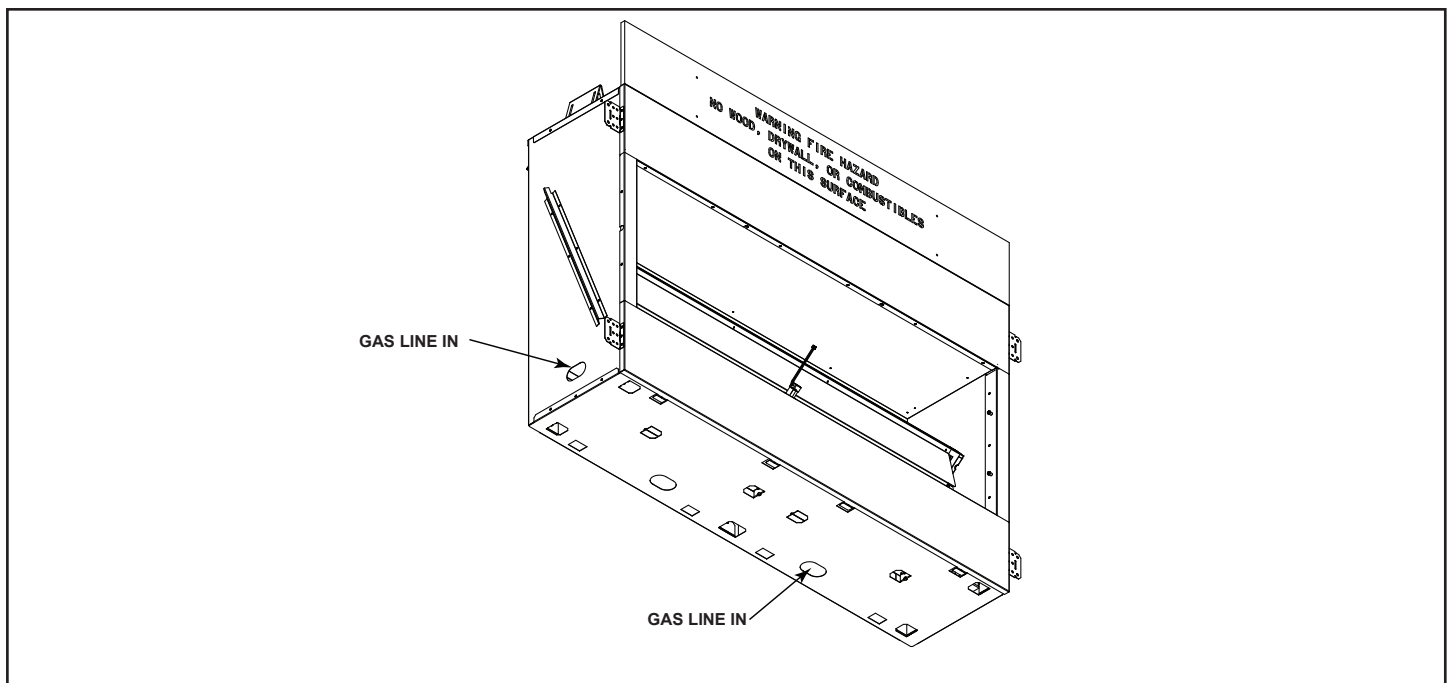

Figure 5.3 - Gas Line In
A manual shutoff valve must be installed upstream of the appliance. Union tee and plugged 1/8" NPT pressure tapping point should be installed upstream of the appliance. Figure 5.3
A sediment trap should be installed upstream to prevent moisture and contaminants from passing through the pipe to appliance controls and burners. Failure to do so could prevent the appliance from operating reliably. Figure 5.3
- Gas line may be run through the left side or right bottom of the appliance. See Figure 5.3.